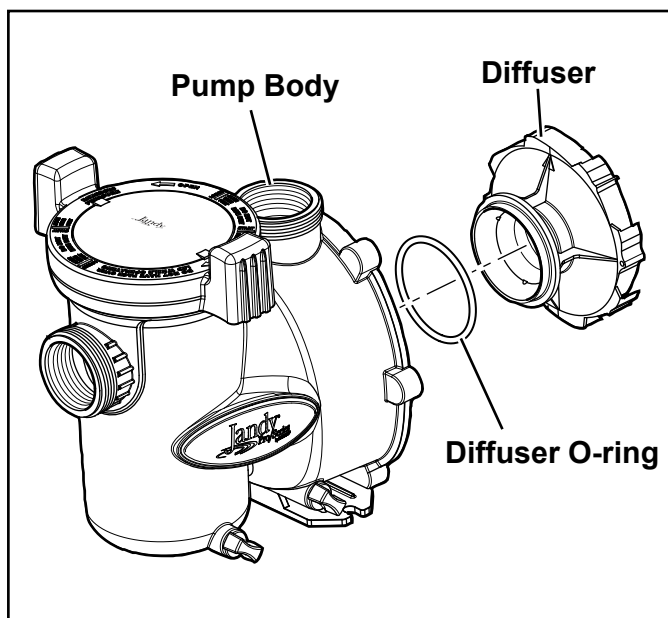

Figure 18. Pump Body and Diffuser Exploded View
6. Replace the two (2) small Phillips-head screws. Tighten the screws to draw the diffuser against the motor backplate.
7. To help prevent an airleak into the system, make sure the diffuser o-ring, o-ring groove, and o-ring seal area are clean and free of debris. If you removed the diffuser o-ring, make sure you install it into the groove you removed it from. (See Figure 18.) If grease is used to retain the o-ring, it **must** be silicone based. **Do not use petroleum-based grease.** It will destroy the o-ring.